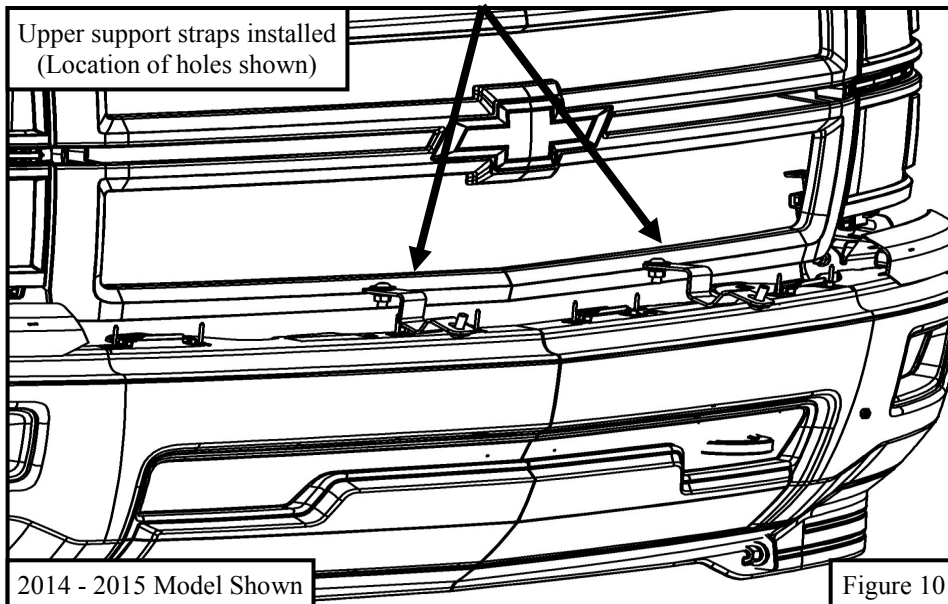

Figure 10
9. Loosely secure the upper support strap brackets to the existing holes in the top of the bumper. Install using (2) M10 button head cap screws, (4) M10 flat washers, (2) M10 lock washers, and (2) M10 hex nuts. See **Figures 10 & 11**. Do not fully tighten hardware at this time.